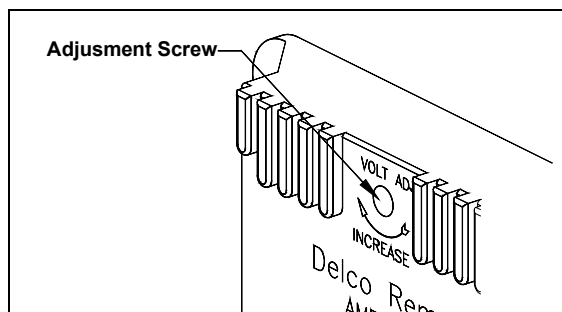

FIGURE 30: ADJUSTING REGULATOR VOLTAGE SETTING
4. If not, the desired setting can be obtained by removing the plug from the voltage regulator cover and slightly turning the adjusting cover and slightly turning the adjusting screw inside the regulator. Turn the adjusting screw clockwise to increase the voltage setting or counterclockwise to decrease it. See figure 30 for details.
Resistor R2 = Turn voltage adjustment screw (identified in figure 30) with ohmmeter connecting each way. Reading should change as slotted screw is turned. If not, replace R2.